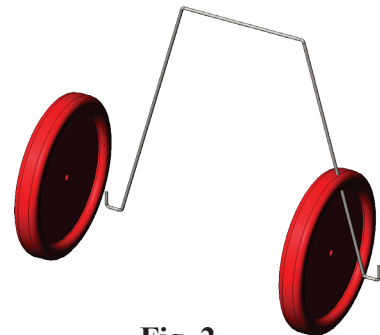

Fig. 2
Step 8. Click approximately where Wheels are positioned in **Fig. 2**. Click OK  in the Property Manager when done.